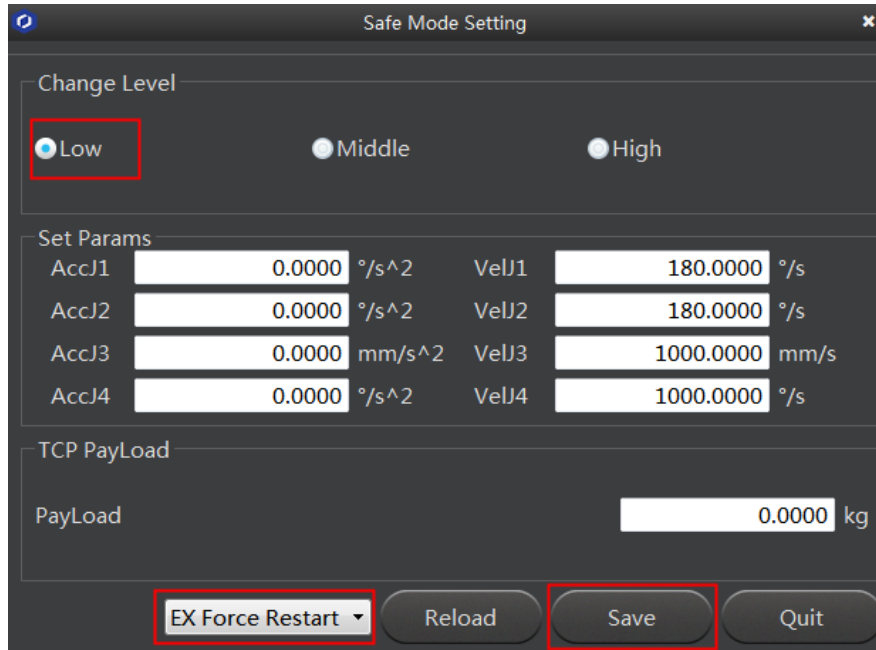

Figure 6.30 Set collision detection parameters
3. Set **Change Level** to **Low**, **PayLoad** to **0**, select **EX Force Restart** and click **Save**, as shown in Figure 6.30.